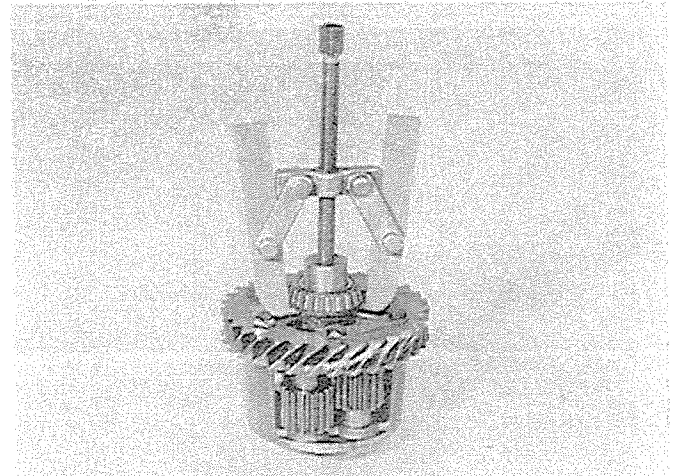

Figure 2
8. Using a suitable bearing puller, remove the two bearings from the carrier. Figure 2. Flatten the tops of the three lock plates and remove the six screws that hold the worm gear to the differential carrier.